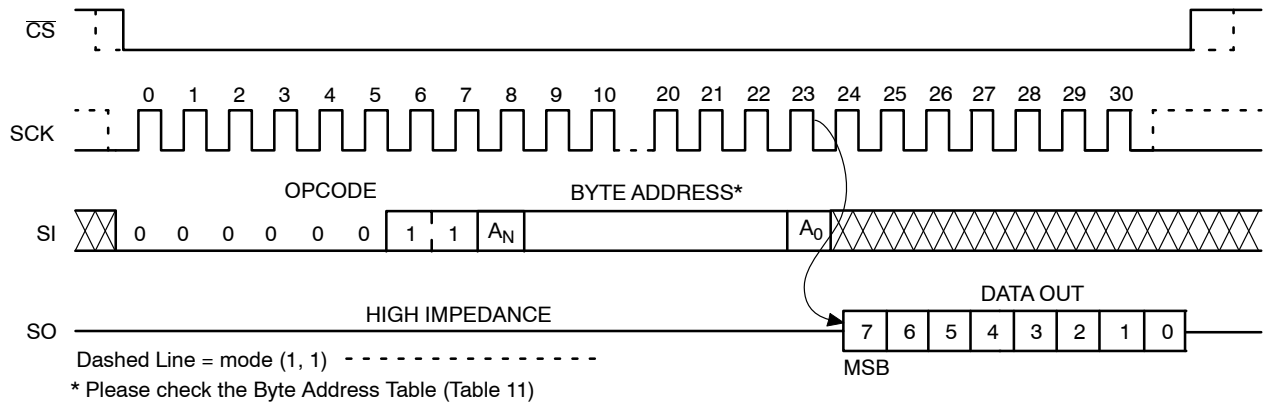

Figure 9. READ Timing
After receiving the last address bit, the NV25512 will respond by shifting out data on the SO pin (as shown in Figure 9). Sequentially stored data can be read out by simply continuing to run the clock. The internal address pointer is automatically incremented to the next higher address as data is shifted out. After reaching the highest memory address, the address counter “rolls over” to the lowest memory address, and the read cycle can be continued indefinitely. The read operation is terminated by taking CS high.
Reading the additional 128-byte Identification Page (IP) is achieved using the same Read command sequence as used for Read from main memory array (Figure 9). *The IPL bit from the Status Register must be set (IPL = 1) before attempting to read from the IP.* The [A6:A0] are the address significant bits that point to the data byte shifted out on the